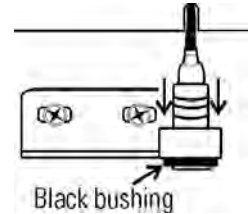

Figure 5-13. Bushing
20. Match the pins on the yellow connector with the socket on the door. Press the connector completely into the socket and slide the strain relief down until no yellow is visible on the plug (Figure 5-13).